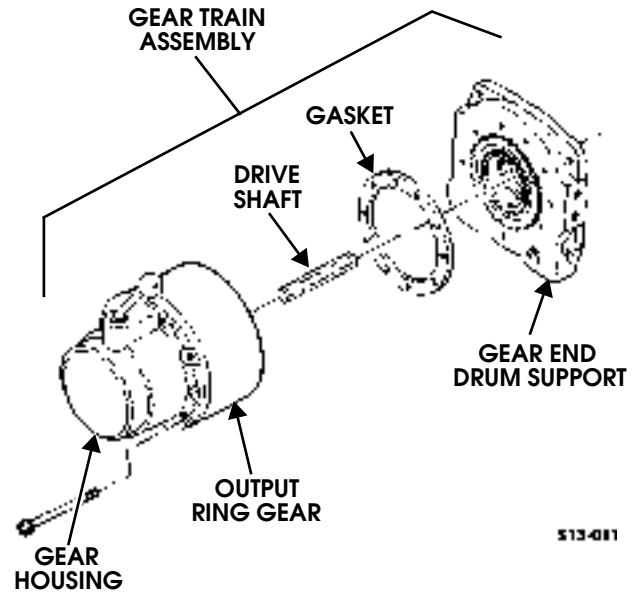

Figure 9-174: Gear Train Assembly
11. Install gasket on output ring gear (Figure 9-174).
15. Install driveshaft in gear train assembly (Figure 9-174).